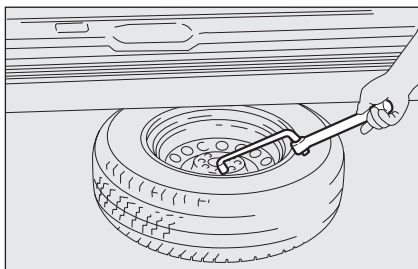

fig. 7a
- ☐ use the wrench **C** to take the wheel out of the vehicle **fig. 7a**;